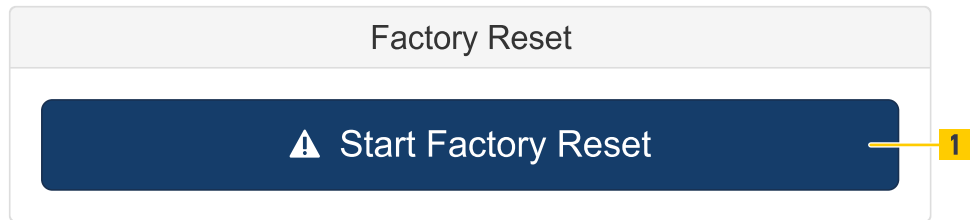

Fig. 148: Factory Reset
- To reset the parameters to the default settings of the installed firmware version click Start Factory Reset (Fig. 148 /1).